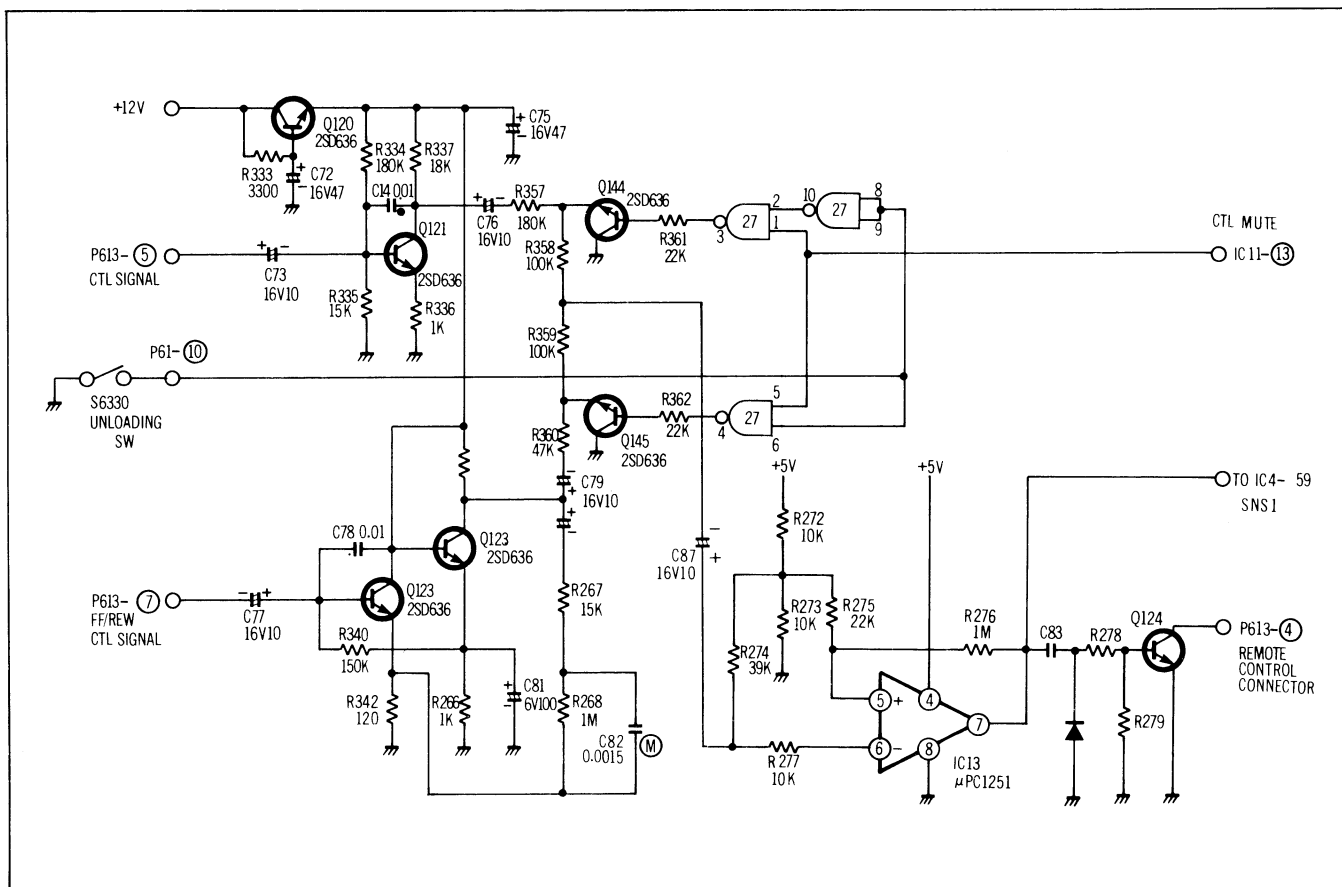

Figure 2-27
signal is sent to Q121. The input to IC13, an opamp, is switched by IC27 and Q144 and 145, based on the state of the unloading switch, which is normally high and goes low at full loading completion. IC13 functions as a Schmitt trigger, and the output goes to IC4 (59) and the Remote control connector for use by the Edit Controller..via Q124. Q120 functions as an active power filter to reduce ripple and noise. See Figure 2-27.